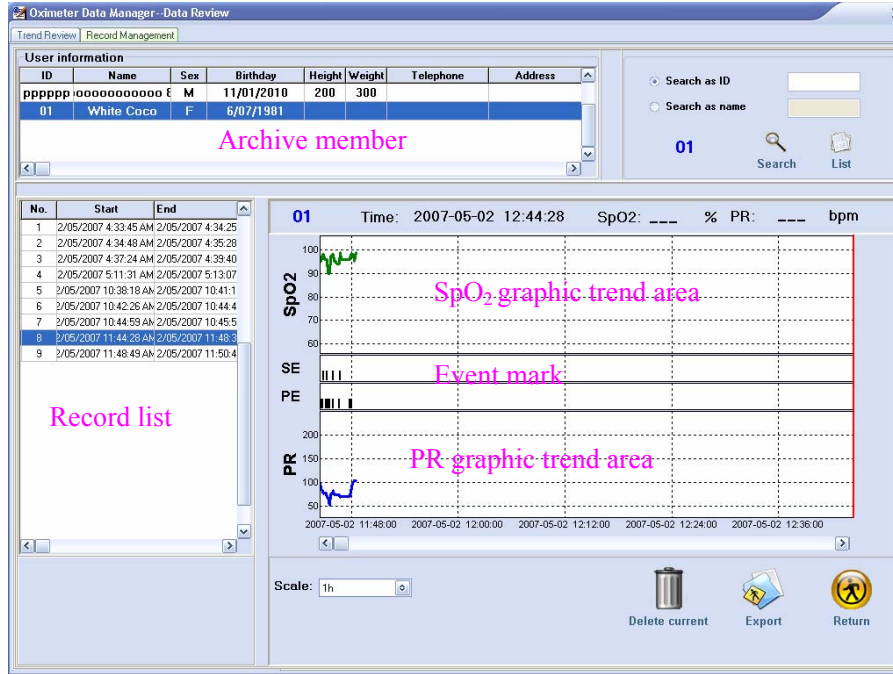

Figure 3-10 Graphic Trend of a Piece of Record
5. Choose “Record Management” page. Select an archive member, all the records of this patient will be listed in record list. Next, choose a piece of record from record list, all the graphic trends corresponding to this record will be displayed in graphic trend area (as shown in Figure 3-10).